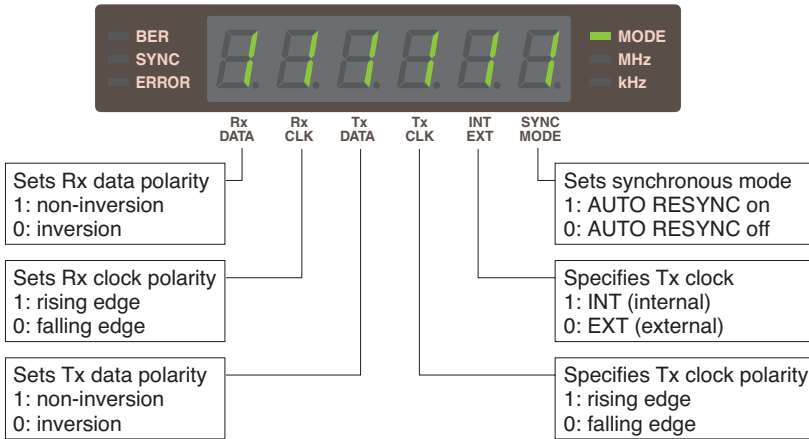

Fig. 2-10 Clock/Data/Synchronous Mode Setting Mode Display
1. – Press the MODE key five times while the error rate is being displayed. This produces the clock/data/synchronous mode setting mode (Fig. 2-10).